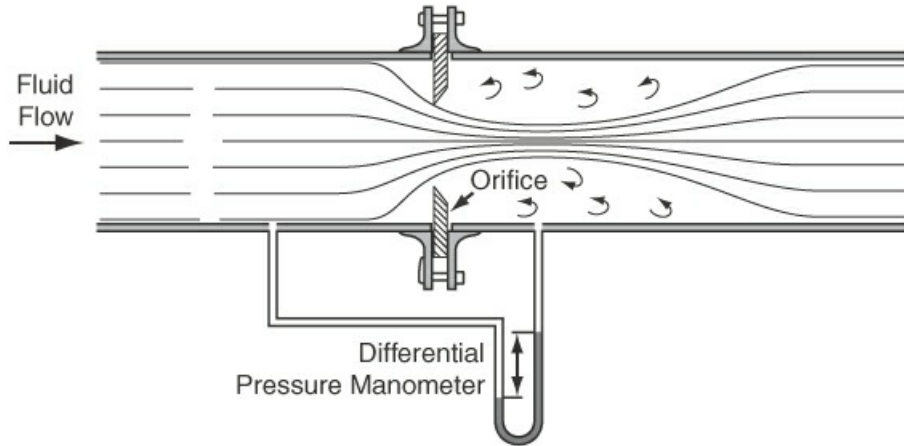

Figure 2.10 Concentric orifice used to restrict flow and measure the fluid flow rate with the aid of a manometer
As you may know, a flowing fluid experiences a **pressure drop** when it passes through a restriction such as the orifice in the pipe shown in Figure 2.10. The pressure difference can be measured with any instrument connected to the pressure taps, such as a manometer as illustrated in Figure 2.10, which can be used to measure the fluid flow rate in the pipe. Note that the manometer fluid reading is static if the flow rate in the pipe is constant.
- h. Air flows in a pipeline, and the manometer containing Hg that is set up as illustrated in Figure 2.10 shows a differential pressure of 14.2 mm Hg. You can ignore the effect of the density of air on the height of the columns of mercury.
Industrial Flow Rate Sensors. Magnetic, vortex shedding, and orifice meters are board-mounted flow rate sensors. Magnetic flow meters, which are low-pressure drop flow sensors, are based on measuring the voltage generated by an electrically conducting fluid passing through a magnetic field (e.g., municipal water). Vortex shedding flow meters are based on inserting a blunt object inside the pipe and measuring the downstream pulses created by the blunt object, which correlate to the flow rate. Orifice meters, which are similar to the one shown in Figure 2.10 except that a DP cell is used to measure the pressure drop across the orifice instead of a manometer, are the most commonly used flow sensor because they are less expensive and more generally applicable than magnetic and vortex shedding flow meters.